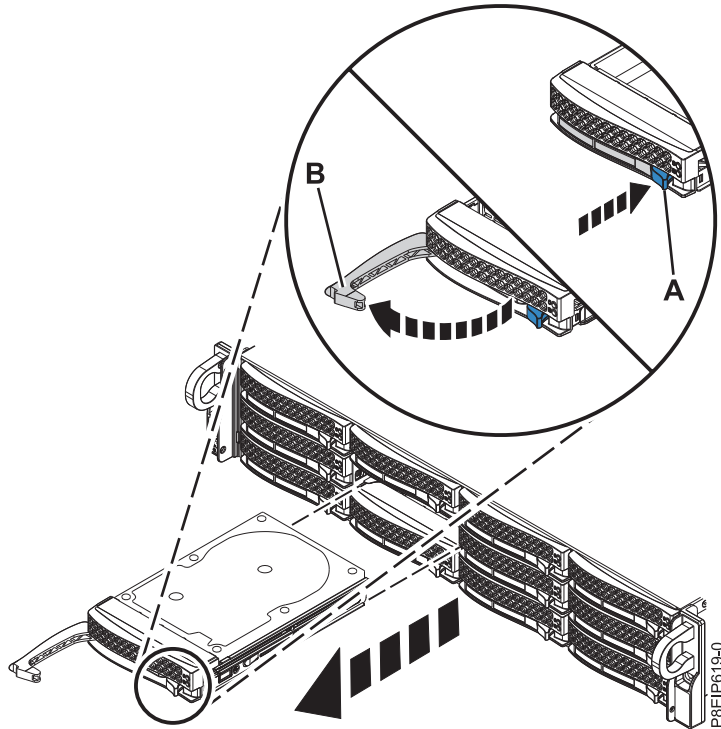

Figure 1. Removing a drive
3. Unlock the drive bay handle (**B**) by pushing in the handle release (**A**) as shown in Figure 1 on page 4. The handle (**B**) snaps out towards you. If the handle does not snap out all the way, the drive does not slide out of the system. If the drive does not match the serial number you wrote down in the previous step, reinstall the drive in the bay you removed it from, and check the other drive bays.